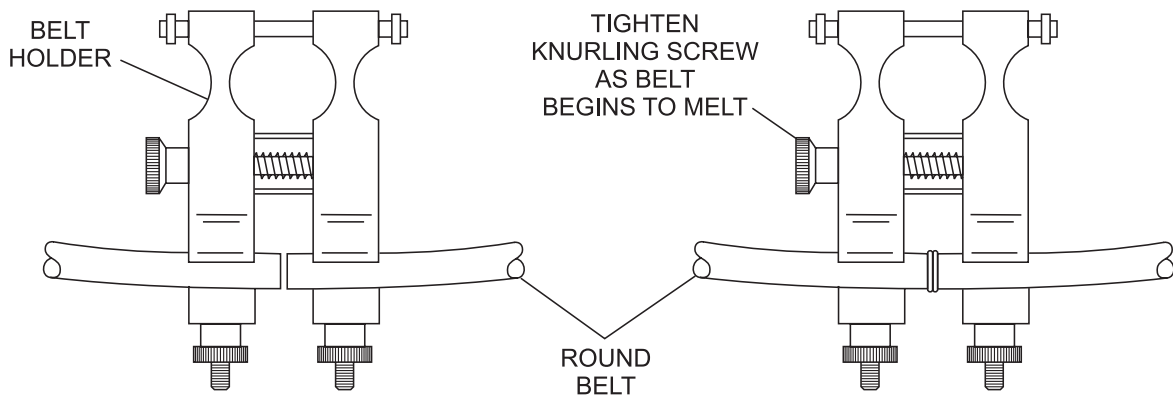

Figure 1
3. Place each belt end in the belt holder so they are slightly apart. Refer to Figure 1.
7. When a pad of melted polycord has formed, withdraw the belt welding paddle and slightly tighten the knurling screws of the holder to bring the ends of the belt together. Refer to Figure 1.